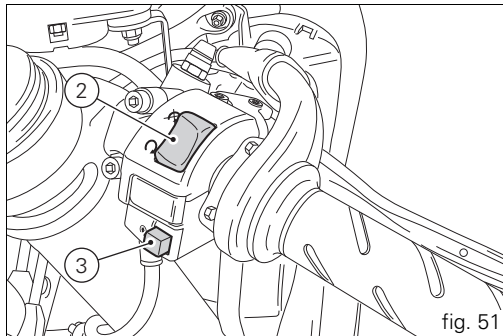

fig. 51
2) Check that the stop switch (2, fig. 51) is positioned to  (RUN), then press the starter button (3, fig. 51).